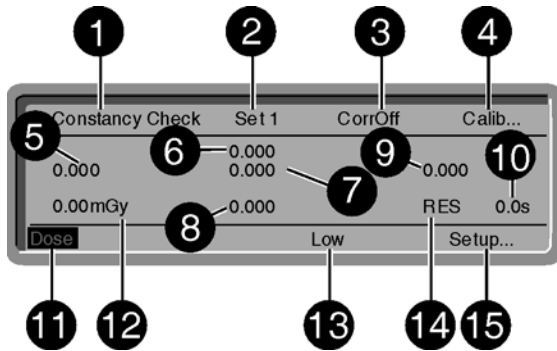

Figure 9-7: Measuring screen Constancy Check
MULTIDOS will briefly show the start-up screen and then the measuring screen (Figure 9-7). After power up and during operation MULTIDOS runs automatic self-tests.
The measuring screen (Figure 9-7) presents information and controls.
- Using the cursor keys, position the cursor on "Set X" (Figure 9-7) and confirm the selection with ENT.
- Position the cursor on "Calib..." (4, Figure 9-7) and press ENT.